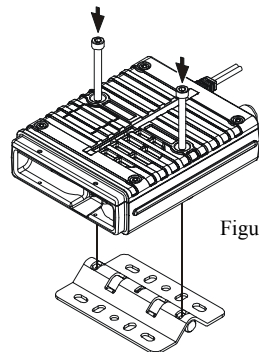

Figure 11
9. Mount the supplied Mobile Mounting Bracket to the any position using the supplied screws (Figure 11).